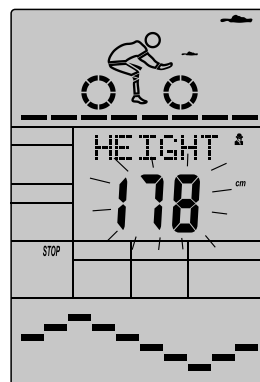

Fig 35
- The height display will flash, and then press (or rotate) button UP/DOWN to set up your height. Press ENTER to confirm the value. (Fig 35)